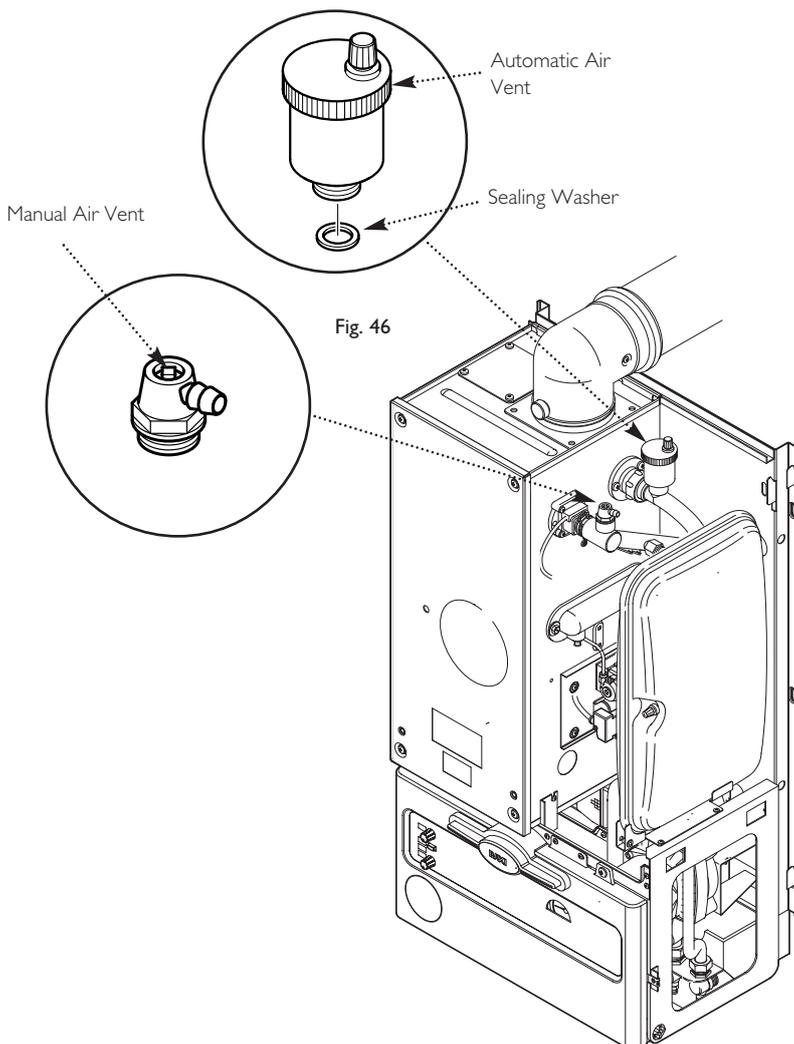

Fig. 46
13.2 Manual and Automatic Air Vent (Fig. 46)